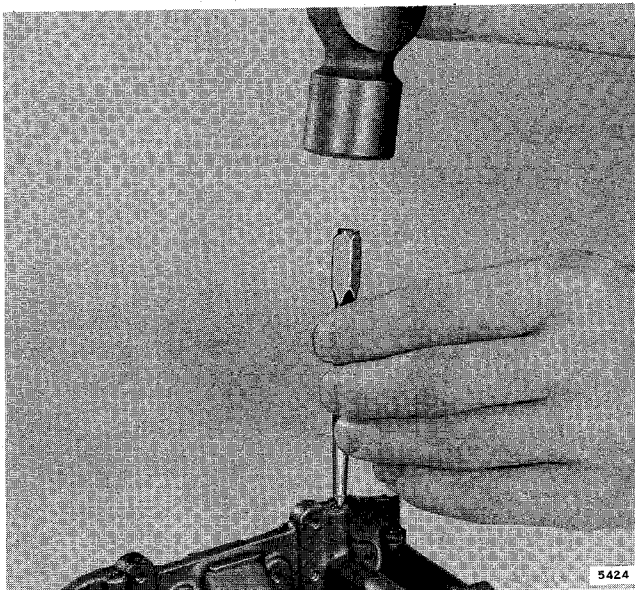

Figure 3-21. Installing or Tightening Lead Shot
a. If leakage is slight, a smart tap with a hammer in the center of the lead shot will normally correct this condition. See Figure 3-21.